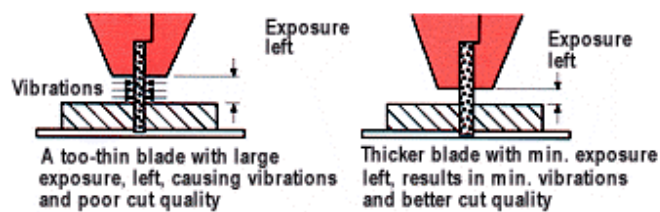

Figure 20
3. Check blade thickness and blade exposure. Using a thicker blade and a smaller exposure will minimize vibrations and improve the cut quality (figure 20).